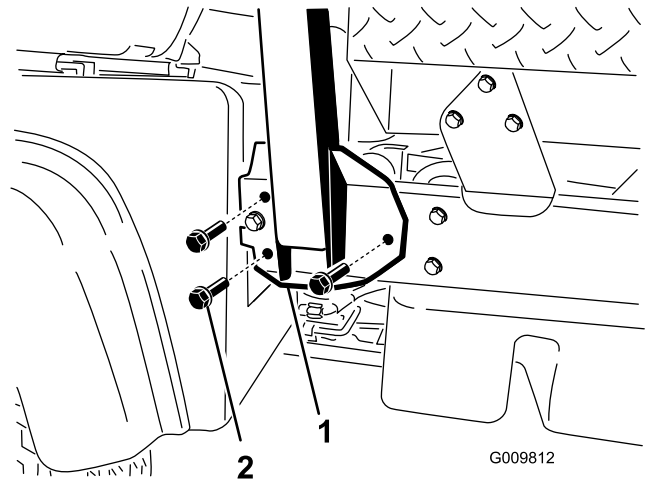

Figure 6
2. Align each side of the ROPS with the mounting holes on each side of the machine frame (Figure 6).
3. Secure the ROPS mounting bracket to the machine frame using 3 flange-head bolts (1/2 x 1-1/4 inches) on each side (Figure 6).